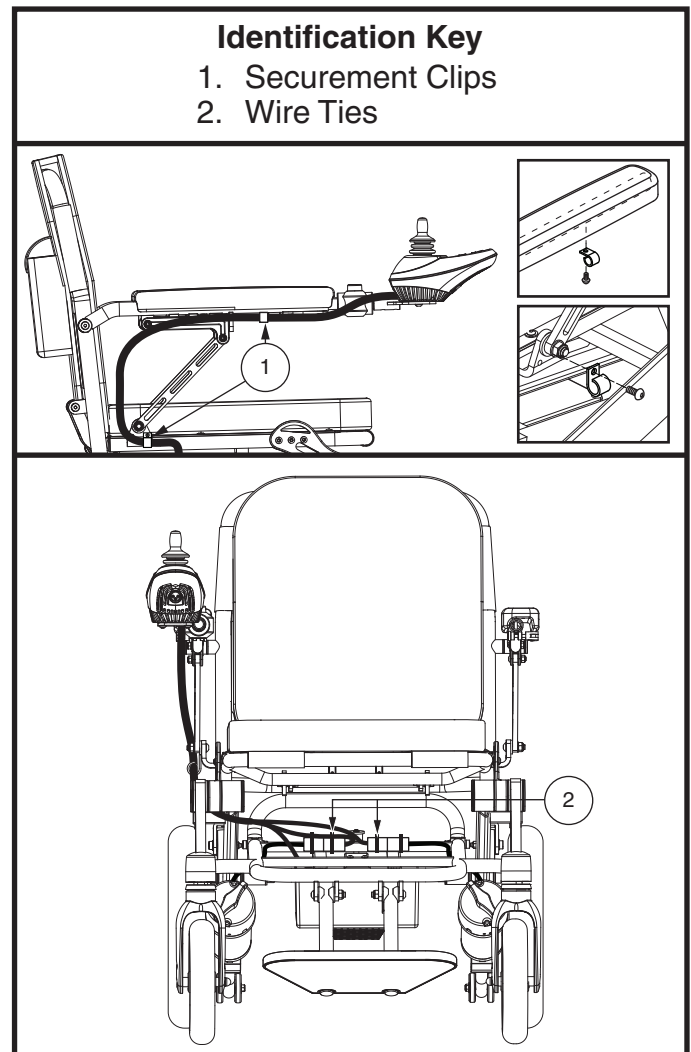

Figure 9. Controller Position
3. Unhook the controller harness from the securement clips. Uninstall the securement clips and reinstall them on the other side. **See figure 9.**
11. Use wire ties to secure the controller harness to the frame, and hook the controller harness to the securement clips. **See figure 9.** Ensure that the armrest can freely be raised and lowered without any tension on the harness so the securement clips do not become disconnected.